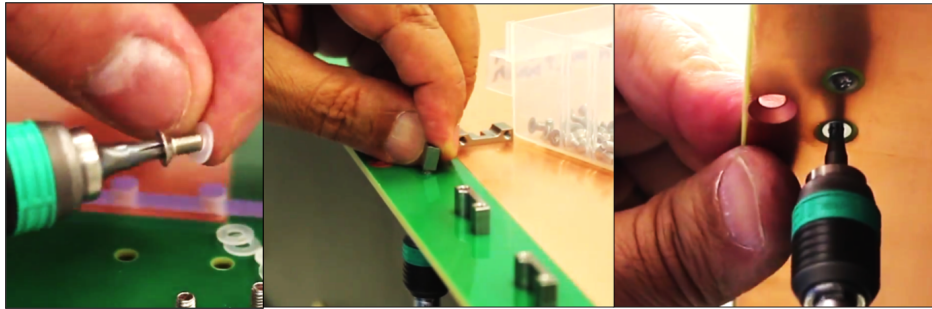

Figure 15: Mounting the pull-outs on the drift board.
Step 1: Place the pull-outs on the dedicated hole of the drift board (Fig. 15 left). The active area of the board should face up.
Step 2: Attach the pull-outs with the screws and the nylon washers. When both screws are in place, tighten it with the torque screw driver at 1.2 Nm (Fig. 15 right).